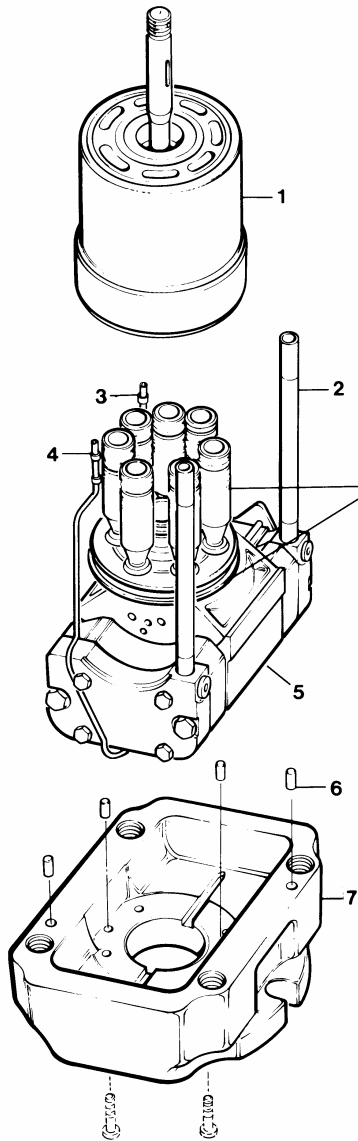

Figure 4
**See Figure 4.** Insert tube line assemblies (3 and 4) in the holes provided in cradle. **Note:** Tube assemblies must be a snug fit into holes in cradle. Expand end of tubes with a pointed tool to assure fit.
**PARTS LIST FOR FIGURE 4**
Install gasket (3) over the two dowel pins (item 6 on figure 4) in the mounting flange.
Position the housing assembly (4) over the barrel and auxiliary shaft assembly and carefully guide the pressure tubes and tube lines (items 2, 3, and 4 on figure 4) through the housing assembly (4).
Slide the port block assembly and port plate over the end of the auxiliary shaft. Be certain that tubes 2, 3 and 4 shown on Figure 4 are engaged and that the port plate (4) is still on the pins (3).